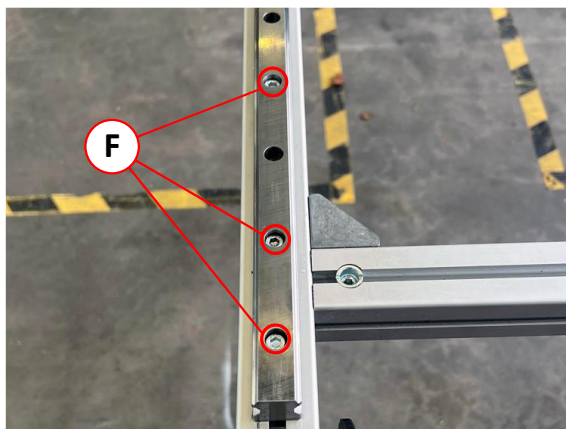
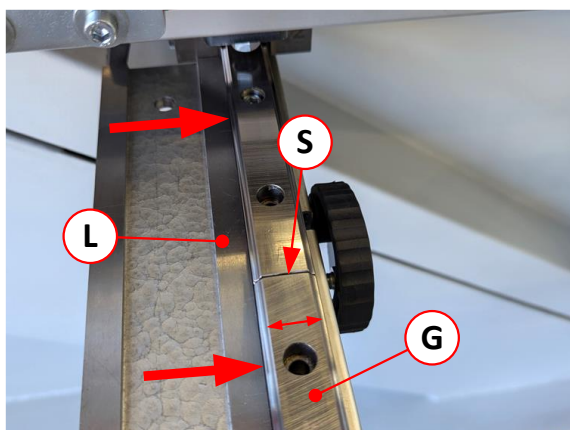

Figure 11: Arrangement of the guide fixing screws (F)
Figure 15: Check/correct alignment at the joint
9. Place a straight edge (L) alongside the guide rail (G) of the fixed frame and the element to be attached (see ⇒ Figure 15).
10. Now check the alignment from the front to the rear guide rail in the area of the joint (S):
- If this is not the case, loosen all the fixing screws (F) - see ⇒ Figure 11 - and adjust the guide rail (G) by manually moving it against the straight edge until there is no longer a gap. Then tighten all the fixing screws (F) again.